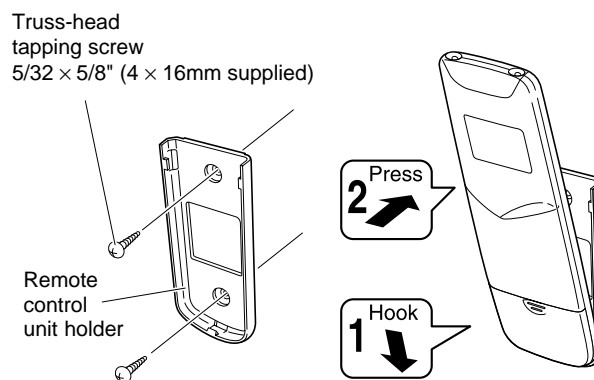

Fig. 38
1) Confirm the indoor unit beeps when the ON/OFF button is pressed at the wall location where the remote control unit is to be attached, then attach the holder to the wall. (Fig. 38)